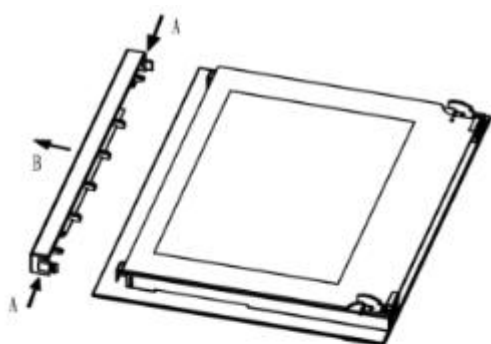

Fig.7
1. Press the button on left and right side of door, then take out top rail. (Fig.7)